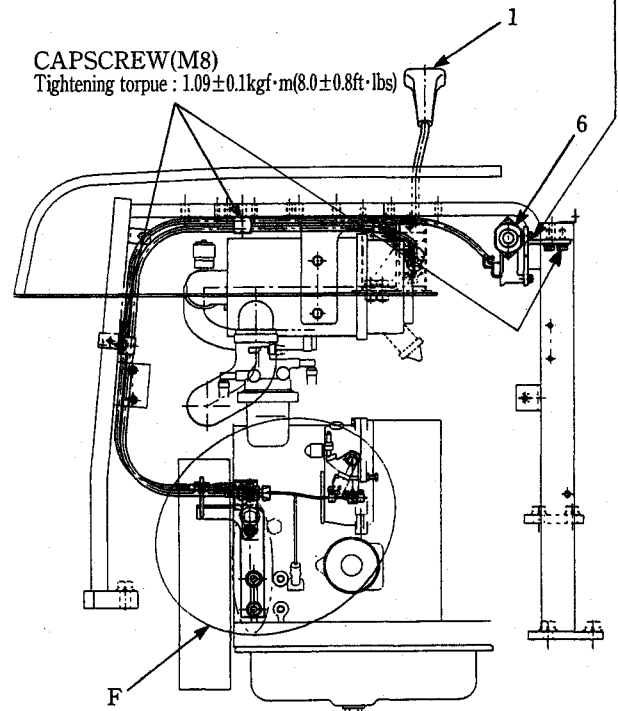

Fig. 12 Deceleration control
When the decel (deceleration) switch on the monitor panel is pushed down, the decel relay is excited, and the decel (governor) motor (6) is actuated. The inner cable of cable (6A) acts to link lever (5B) to rotate it to rightward making the pin (5C) as the fulcrum (Fig. 12 Details F). Then the outer casing of control cable (2) that is attached to the link lever (5B) with two nuts, moves to rightward together with the inner cable, and the control lever of governor is moved to decel side (low idling side), leaving the throttle lever at its original position.